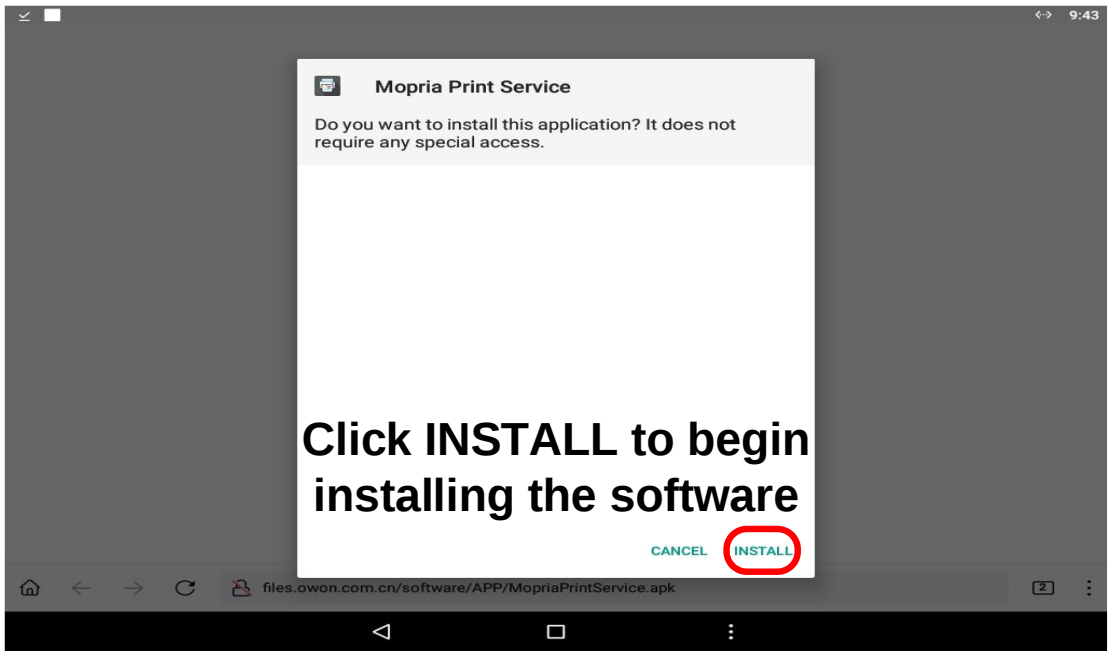

Figure 3
③Click **INSTALL**,start to install print app, as shown in Figure 3.